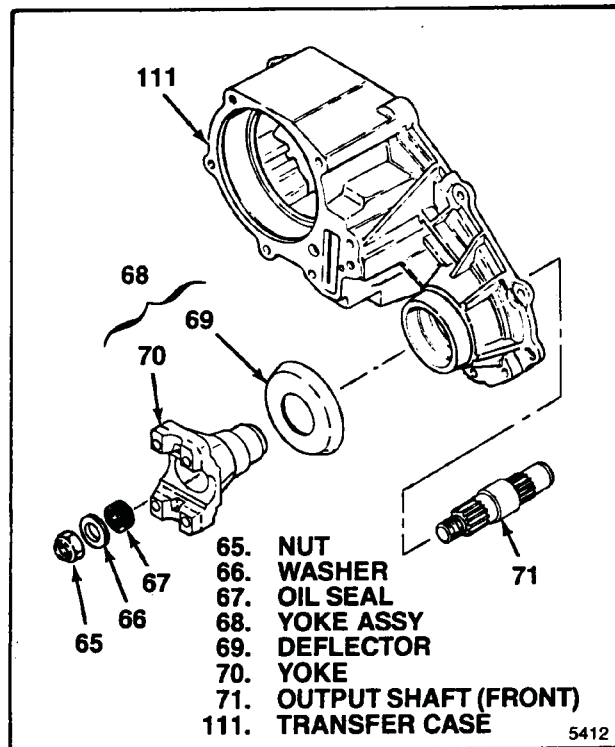

Figure 5-11. Front Output Shaft Group
**5-9. INSTALLING FRONT OUTPUT SHAFT GROUP.** To assembly as completed thus far (72 through 111), install parts as follows (see figure 5-11):
a. If removed, press deflector (69) onto yoke (70).
b. Position output shaft (71) in transfer case (111) and install yoke assembly (68), oil seal (67), washer (66) and nut (65).
c. Hole yoke (70) with torque bar T-13-54-002 and torque nut (65) to 150-180 lb-ft (203-244 Nm).